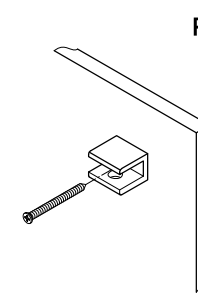

Fig. 5
5. Fasten the brackets by threading the screws into the drilled holes (Fig 5).